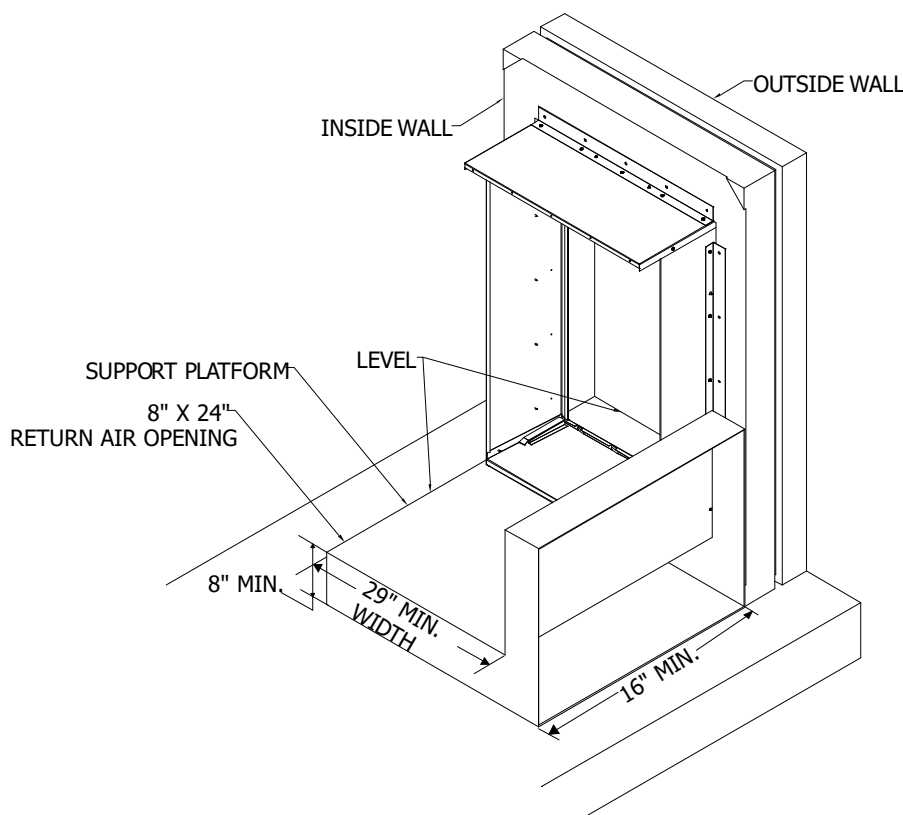

FIGURE 12 - Unit Support & Alignment
FIGURE 12 - Unit Support & Alignment. It must be fabricated with plywood, framing lumber and/or any pre-approved sheet metal construction material. **FIGURE 12 - Unit Support & Alignment** is showing alignment of the platform top with the base panel of the wall sleeve.
- Refer to **FIGURE 12 - Unit Support & Alignment.**